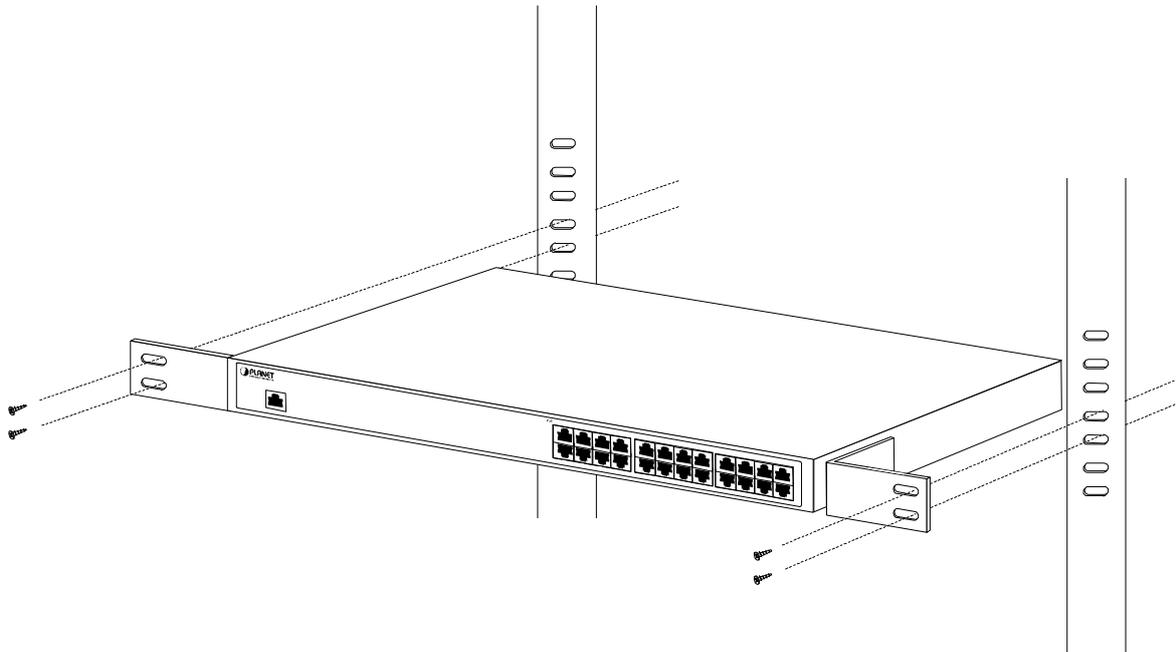

Figure 2-9 Mounting the PoE Injector Hub in a Rack
Step5: After the brackets are attached to the Injector, use suitable screws to securely attach the brackets to the rack, as shown in Figure 2-9.